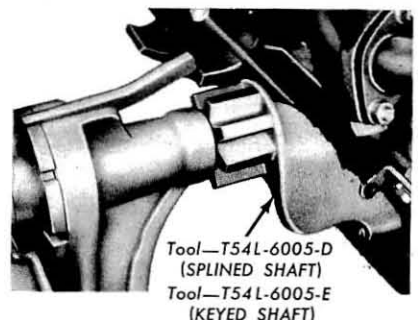

FIG. 11—Engine Mount
21. Install the engine on a work stand (Fig. 11).
21. Install the engine on the work stand (Fig. 11).